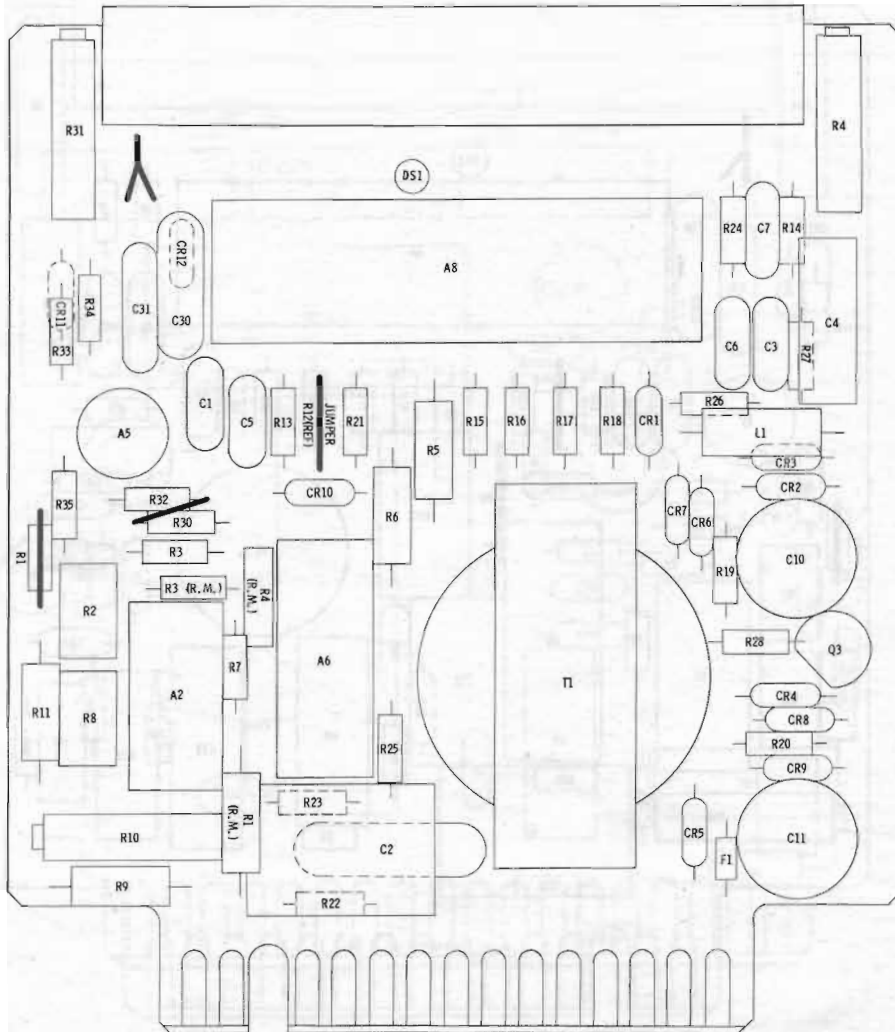
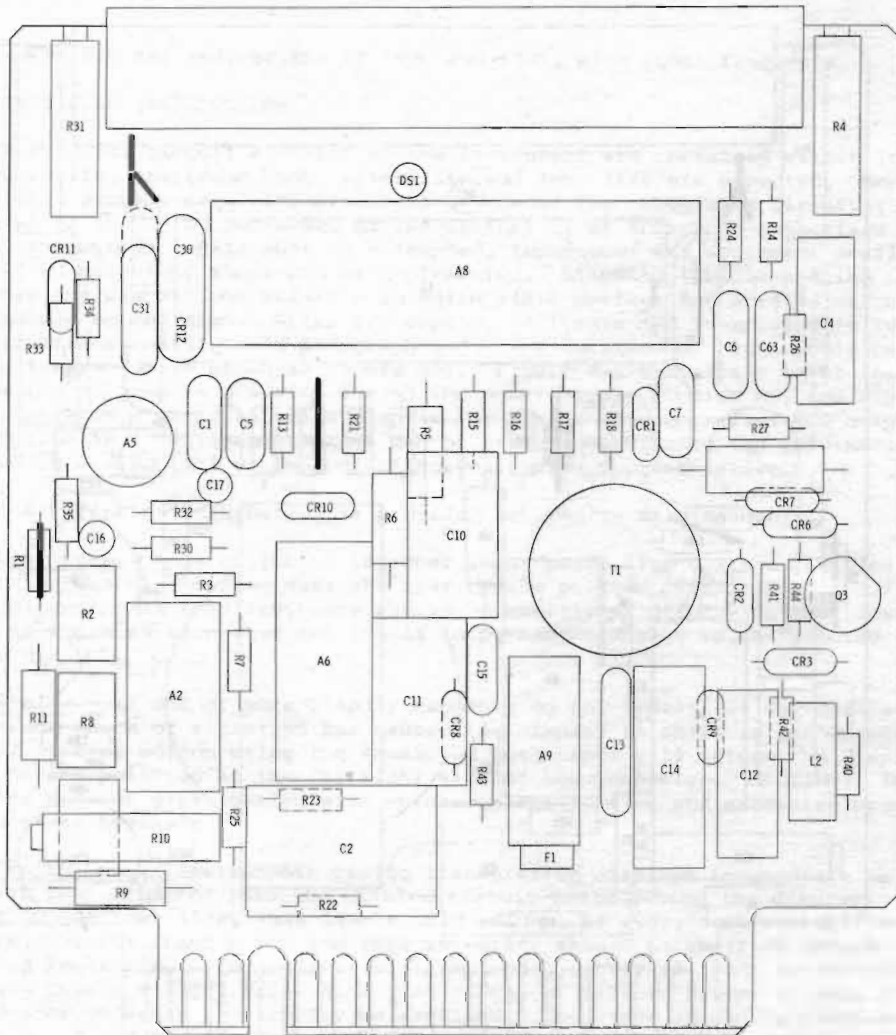
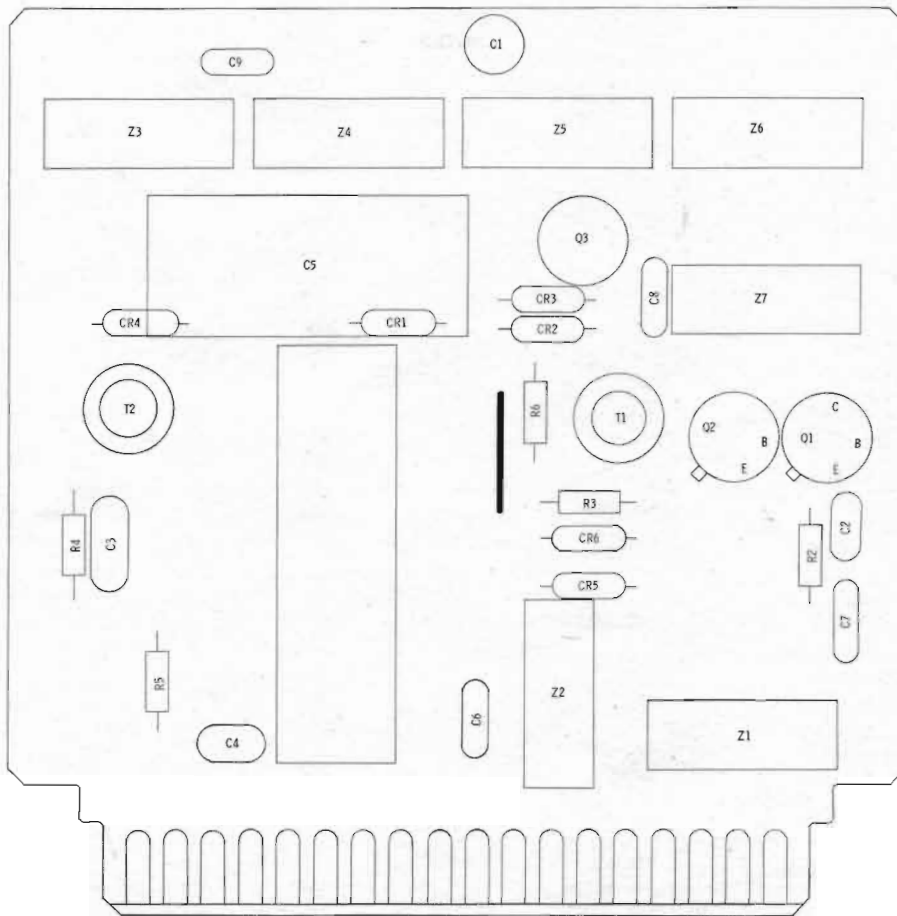

Figure 4-1. Basic TA 305 Parts Location Diagram
Figure 4-2. TA 305 With +5 VDC Power Supply (Option A5)
Figure 4-3. Isolated Parallel BCD Output (Option A8)
4-9. Calibration of the instrument is accomplished on the test bench and should only be performed when the instrument exceeds the specified accuracy or after repairs are made. Calibration will also be required when changing range modules. The test equipment required for calibration (or the equivalent) is specified in Table 4-1. The instrument should be operated on the bench for fifteen minutes to stabilize prior to calibration. Calibration consists of the following adjustments; (1) input current zero, (2) zero adjustment, (3) dead-zone adjustment, (4) plus calibration, and (5) minus calibration. The locations of the adjustments are shown in Figure 4-1.
4-16. Nearly all circuit elements of the instrument are contained within integrated circuits, therefore high reliability and long life are expected. Any failure will usually require replacement of one of the integrated circuits; a process which should be performed at the factory or at a factory-authorized service center. If repair must be attempted, techniques and equipment available in qualified metrology shops can be implemented. Standard troubleshooting techniques and precautions relative to solid state devices and printed circuit boards should be followed. After any repair, calibrate the instrument following the instructions contained in paragraph 4-8. The location of replaceable parts in basic instrument is shown in Figure 4-1. Figure 4-2 contains a parts location diagram for the TA 305 with the +5 VDC power supply, Option A5, and figure 4-3 contains a parts location diagram for the isolated parallel BCD output board, Option A8. Replacement parts can be procured utilizing the information contained in Section III or by contacting your sales representative.